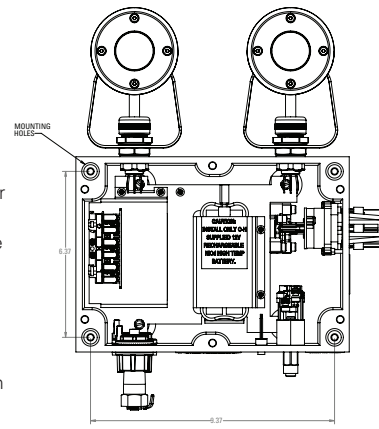

Figure 2. Mounting Dimensions
1. Refer to overall dimensions (see Figure 1) to select a mounting location that will provide suitable strength and rigidity for supporting power supply and attached fixtures. See Figure 2 for mounting dimensions.
2. Loosen (do not remove) the (6) captive cover screws of the N2LPSM2 power supply housing and carefully place the cover aside for reassembly later.
3. Securely fasten the enclosure to the mounting location using appropriate length 1/4" diameter hardware through the four (4) mounting holes shown in Figure 2.